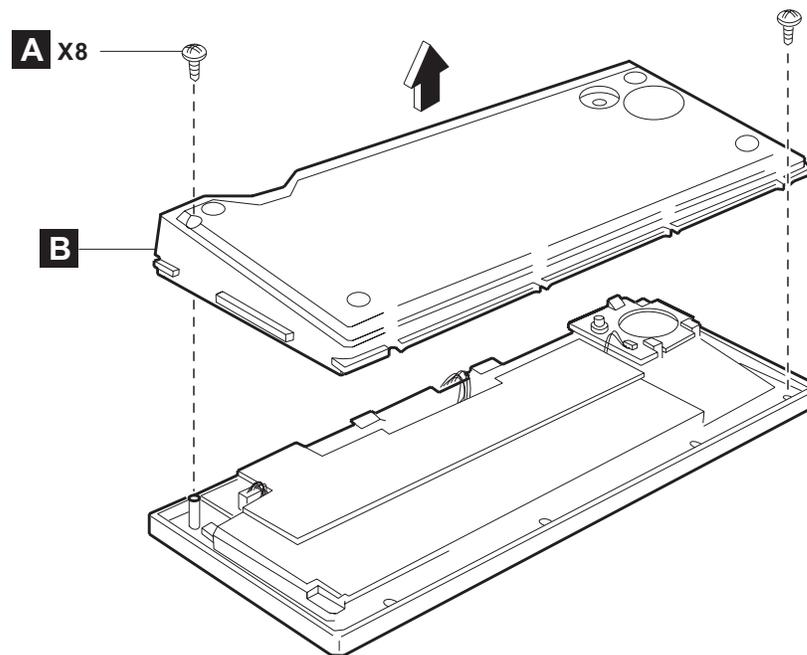

Figure 56. USB keyboard-V components – part 1
2. Remove the eight screws (see **A** in Figure 56).
3. Lift the bottom cover assembly (see **B** in Figure 56).